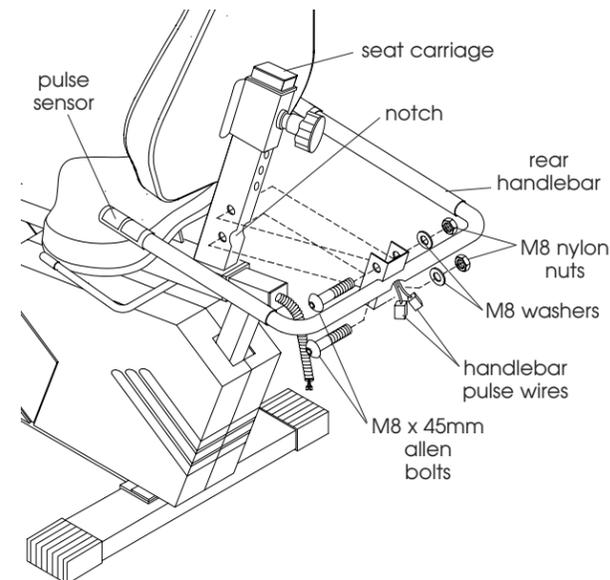

Figure 5 - Install Rear Handlebar
- Remove (2) Allen Bolts, (2) Washers and (2) Nylon Nuts from Rear Handlebar with Pulse Sensors.
- Place Rear Handlebar into notch in Seat Carriage with Handlebar pointing forward and Pulse Sensors facing up, see Figure 5.
- Secure Rear Handlebar with (2) Allen Bolts, (2) Washers and (2) Nylon Nuts removed in Step 5a. Tighten Bolts with Allen Wrench provided.